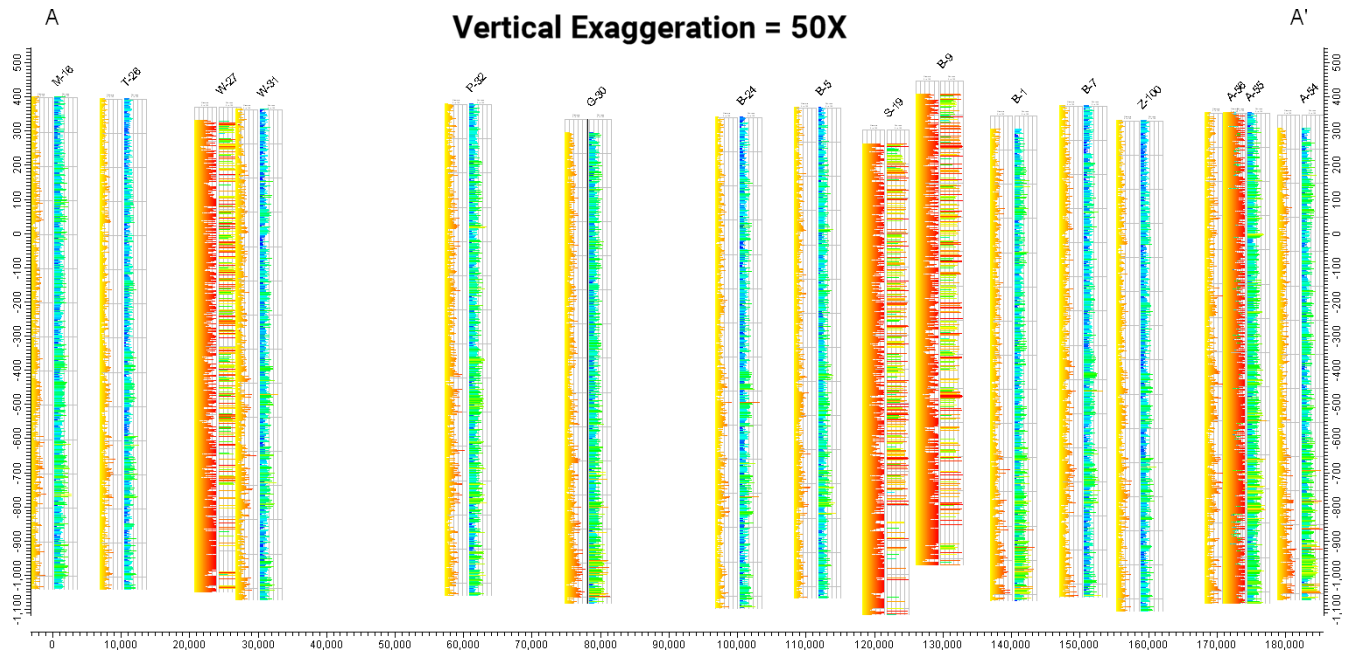

Figure 2
- Consider a cross-section in which the logs are approximately 1,400 meters long while the section is 190,000 meters wide (Figure 2). The challenge with a section such as this is to make the logs wide enough to discriminate features but thin enough to minimize overlap with logs that are close to each other (e.g., less than the log width). The only solution is to experiment with the various log-plotting dimensions and plotting the logs with a suitable vertical exaggeration.